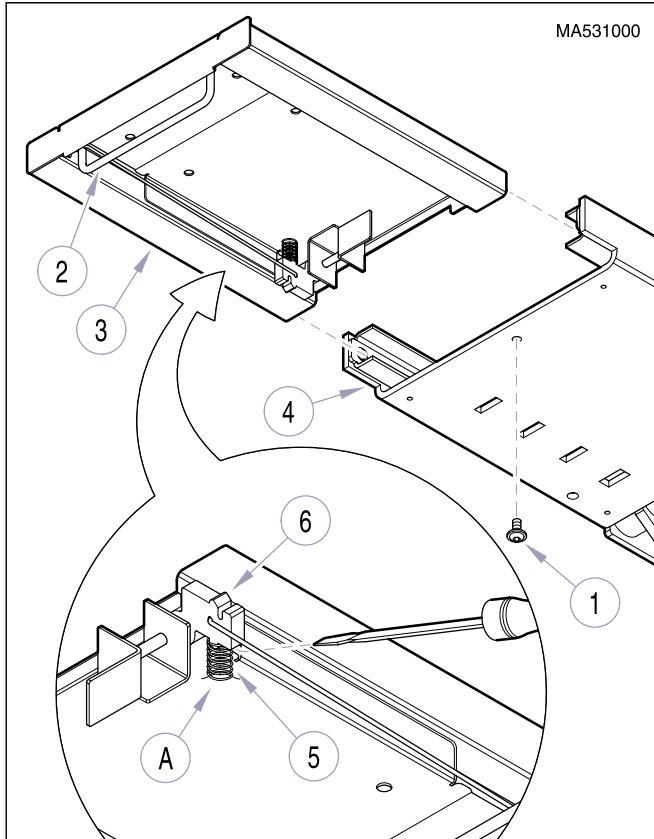

Figure 4-51. Foot Rest Latch Spring Removal / Installation
- (1) Run FOOT UP function to its maximum height.
- (2) Loosen screw (1, Figure 4-51); then squeeze release handle (2) and remove foot slide weldment (3) from foot section weldment (4).
- (3) Using a small flat-bladed screwdriver, pry latch spring (5) from detent latch (6).